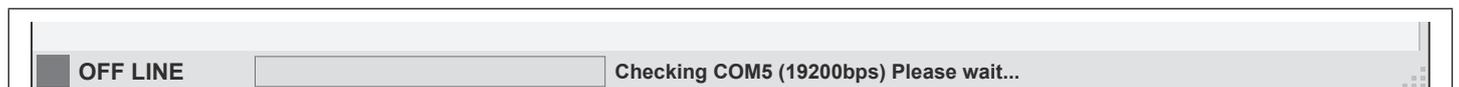
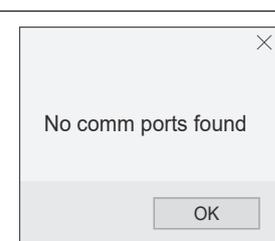

Fig. 127
Fig. 136
- **CHECKING COMM PORTS (OFF LINE):** see **Fig.127**, this indicates that the PC software is checking through the PC's available comm ports trying to make a connection with the GSM module, usually after the **Auto Detect** button has been pressed on the **main programmer window**. After a brief delay the panel type prompt window will appear (refer back to **Fig.12**, page 14) so that the appropriate GSM panel type can be selected before trying to re-establish a connection again between the GSM module and the PC software.
If there is an issue with the connection (whether it is the USB or RS485 connection) and the PC software is showing the GSM module is **OFF LINE** (as indicated by **Fig.126**) and the **REFRESH** button has been pressed on the **main programmer window** the no comm ports prompt window will appear, **Fig.136**. Click on the **OK** button then follow the **OFF LINE** notes on the previous page (also refer to **Fig.126** and **Fig.127**). If there is still an issue with the PC software detecting the GSM module also try following the notes on **GSM panel detection** and **Connecting the Software to the GSM module (ON LINE)**, on page 15, to try and resolve the issue.